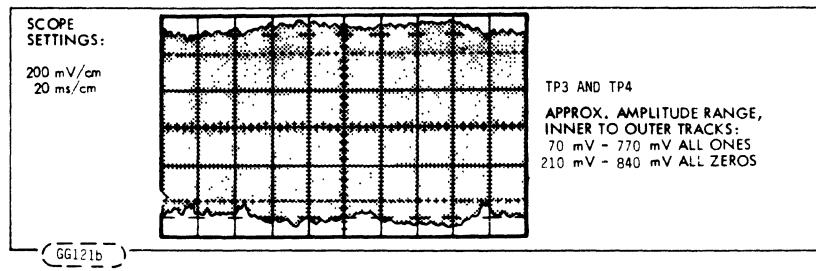

FIGURE 6-1. DIFFERENTIAL READ SIGNAL FOR ENTIRE TRACK
- 3. Signals should conform to Figure 5-1 and Figure 6-1 through 6-3.